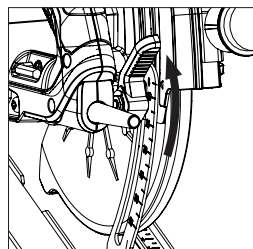

Fig. 10
- Loosen the Depth Adjustment Locking Mechanism by pulling the operating lever upwards. (**Fig. 10**)